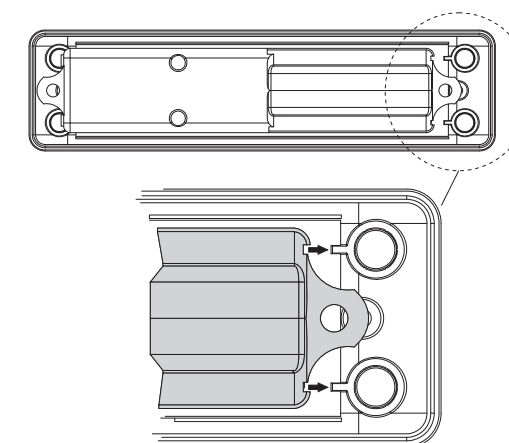

fig.3
6. Insert the sensor into the box (the notches on the sensor must match the references on the box, see fig. 3) and secure it with the screws. ATTENTION: tighten the screws up to the stop, without insisting further